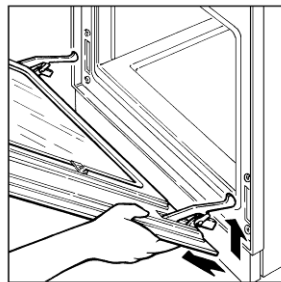

Fig. 14
- lift the door gently and withdraw it (Fig. 14).